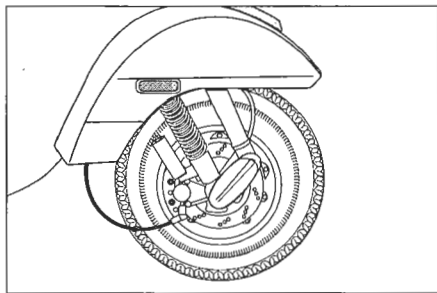

Fig. 38
*Stella* scooters are produced with a Disc brake in front wheel (Fig. 38). The disc brake functions on hydraulic system. Proper functioning of the brake depends on maintaining the correct level of brake fluid in the 'Master Cylinder Assy.'